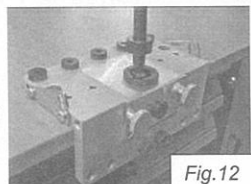

Fig.12
- 4.3. Slide the jig onto the work piece as far as the edge of the work piece (fig. 12).
- 4.5. Now drill the hole with the appropriately adjusted stop ring (fig. 12).